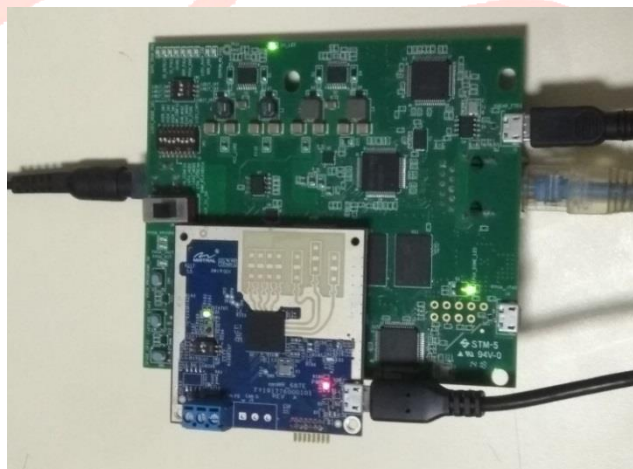

Figure 6 : AoPCB Data capture with DCA1000 EVM demo Setup
1. Mount AoPCB on DCA1000 EVM as shown in Figure 6.